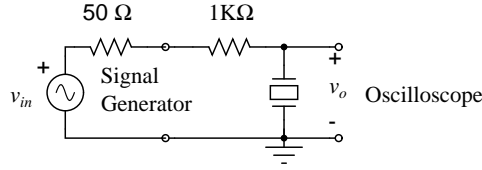

Figure 1: Quartz crystal measurement setup.
1. We measure f_s and Q of both crystals in this exercise and then characterize the relevant crystal parameters. The measurement setup is given in Fig. 1.